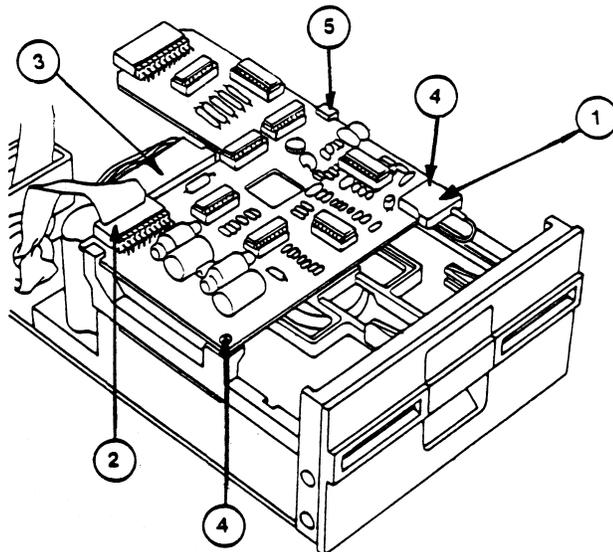

FIGURE 5
2. Disconnect the read/write head connector from the front of the analog card (Figure 5, #1).
3. Disconnect the ribbon cable connector at the rear of the analog card (Figure 5, #2).
4. Remove the two screws at the front of the analog card (Figure 5, #4).
5. Slide the analog card back past the retaining slots at the rear, and then lift it out (Figure 5, #5).
1. Slide the analog card through the retaining slots (Figure 5, #5) and into position.
2. Replace the two screws to hold the board in place (Figure 5, #4).
3. Attach the read/write head connector to the front of the analog card (Figure 5, #1). Ensure that there is just enough loop in the cable so that it doesn't pull down on the molex connector.
4. Attach the ribbon cable connector at the rear of the analog card (Figure 5, #2).